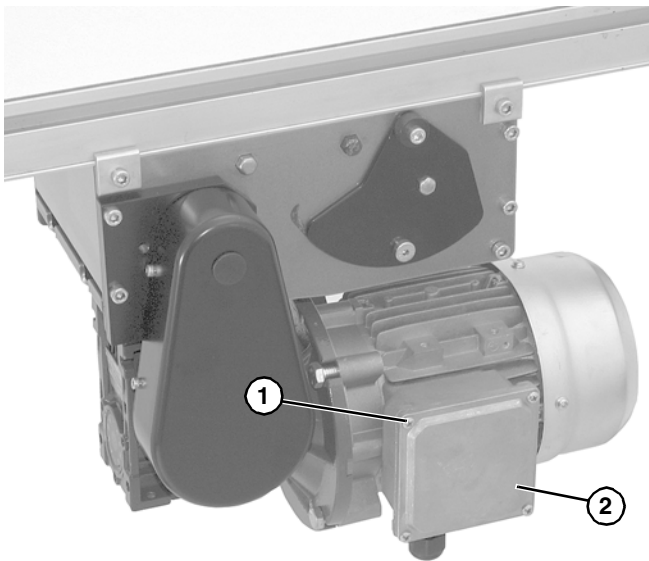

Figure 27
1. Loosen terminal box screws (Figure 27, item 1) and remove cover (Figure 27, item 2).